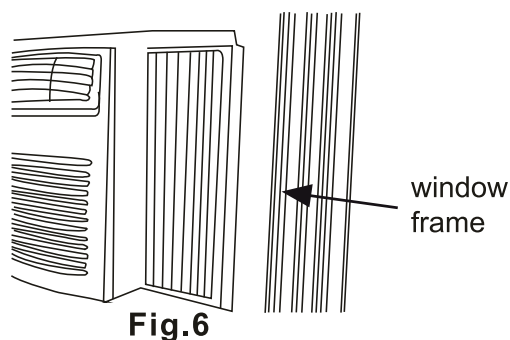

Fig.6
- B. Extend the side panels out against the window frame (Fig. 6).